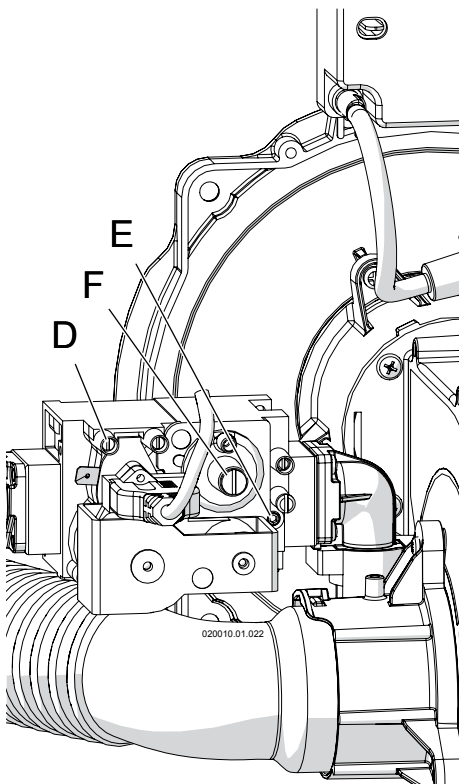

Figure 15-1 Gas valve
3. turn the screw in pressure port "D" shown in Figure 15-1 three turns counterclockwise;
4. connect a manometer with graduations of at least 0.1 in.W.C. (0.25 mbar) to the inlet gas port "D" shown in Figure 15-1 (on unit model 399 to 1000, choose the pressure port "D" from any gas valve present).
3. turn the screw in pressure connection "D" in Figure 15-1, clockwise until snug;
4. check pressure port "D" (Figure 15-1) for any gas leaks;
making sure to use the range for the gas type in use. If the CO2 reading is outside the specified range, it must be adjusted operating on the "E" screw of Figure 15-1. Use a 2.5mm Allen Wrench to turn the screw (clockwise to reduce the CO2 level, counter-clockwise to increase the CO2 level) in small increments and wait for the CO2 to stabilize to prevent overshooting the desired value;
- e. compare the CO₂ reading with the high fire range given in Figure 14-7, making sure to use the range for the gas type in use. If the CO₂ reading is outside the specified range, it must be adjusted operating on the "E" screw of Figure 15-1 of the gas valve closer to the burner unit in fire. Use a 2.5mm Allen Wrench to turn the screw (clockwise to reduce the CO₂ level, counter-clockwise to increase the CO₂ level) in small increments and wait for the CO₂ to stabilize to prevent overshooting the desired value;
- f. when CO₂ level match the value of Figure 14-7, seal screw "E" (Figure 15-1) with red paint or nail polish to discourage tampering.